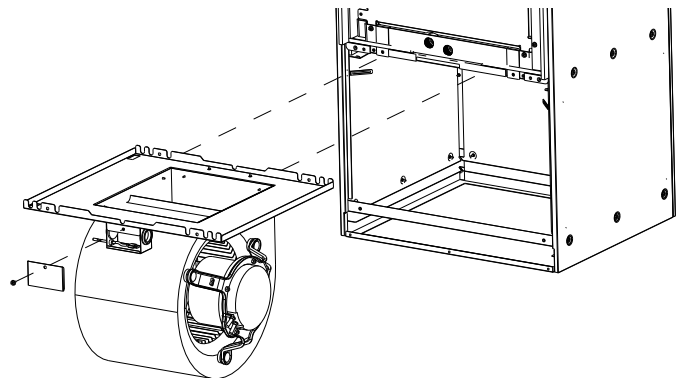

Fig. 11
3. Remove the door that covers the small enclosure attached to the fan assembly (Fig.11).